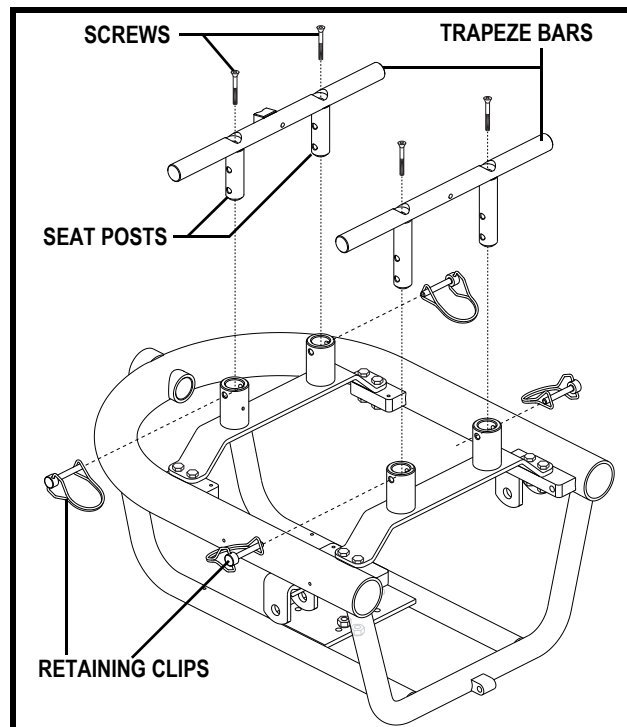

Figure 15. Trapeze Bar Adjustment
7. Loosen the screws that attach the trapeze bars to the seat posts. **See figure 15.**
8. Remove the retaining clips that secure the seat posts to the power base. **See figure 15.**